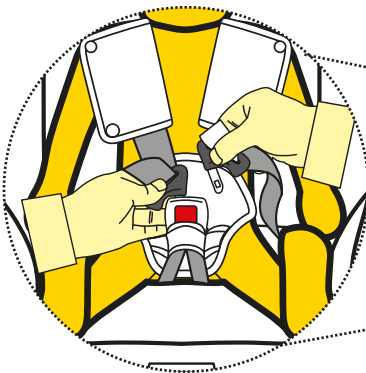

Figure 3
Step 3: Place child in car seat with legs either side of the buckle, place harness over the shoulders and hips (refer Figure 3) .